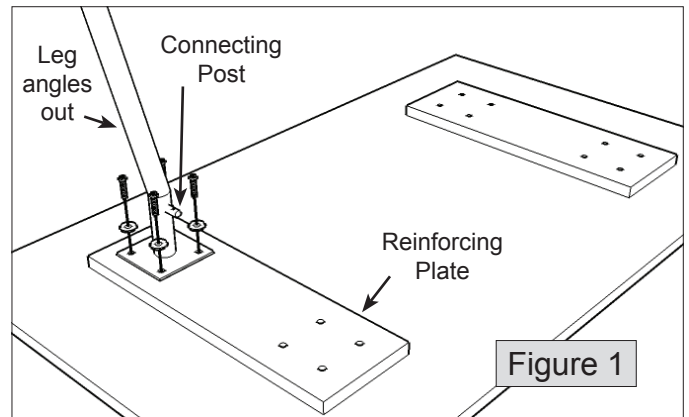

Figure 1
3. Attach one leg to tabletop using 1" Allen bolts and washers into threaded inserts, as shown in figure 1. Be sure leg angles out and short connecting post is parallel to tabletop reinforcing plate. Keep bolts slightly loose for now.